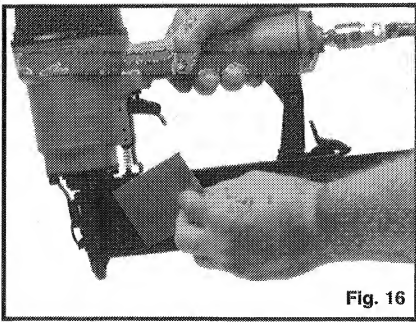

Fig. 16
3. Insert a strip of approved fasteners, see Fig. 16. Orient fasteners with points down, and in contact with the bottom of the magazine.